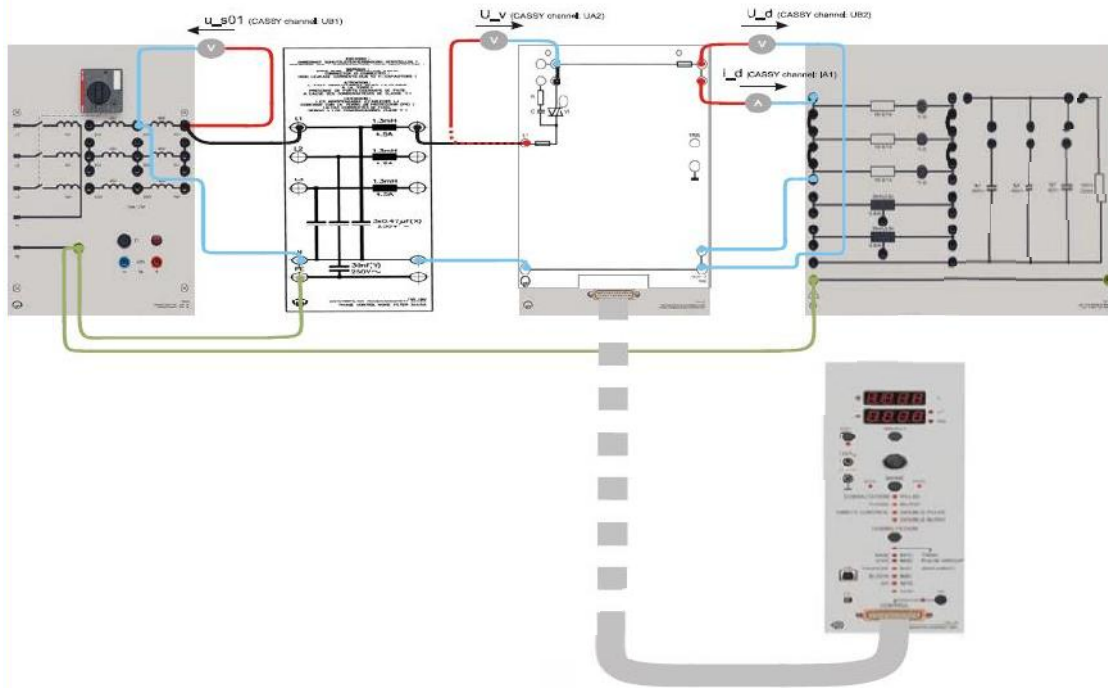

Figure 2.4 Configuration of an AC Voltage Controller implementing a TRIAC and supplying a purely resistive load of 33Ω
- Connect the components as shown in Figure 2.4. The load is purely resistive of 33.3Ω (3 resistors in parallel, of 100Ω each).